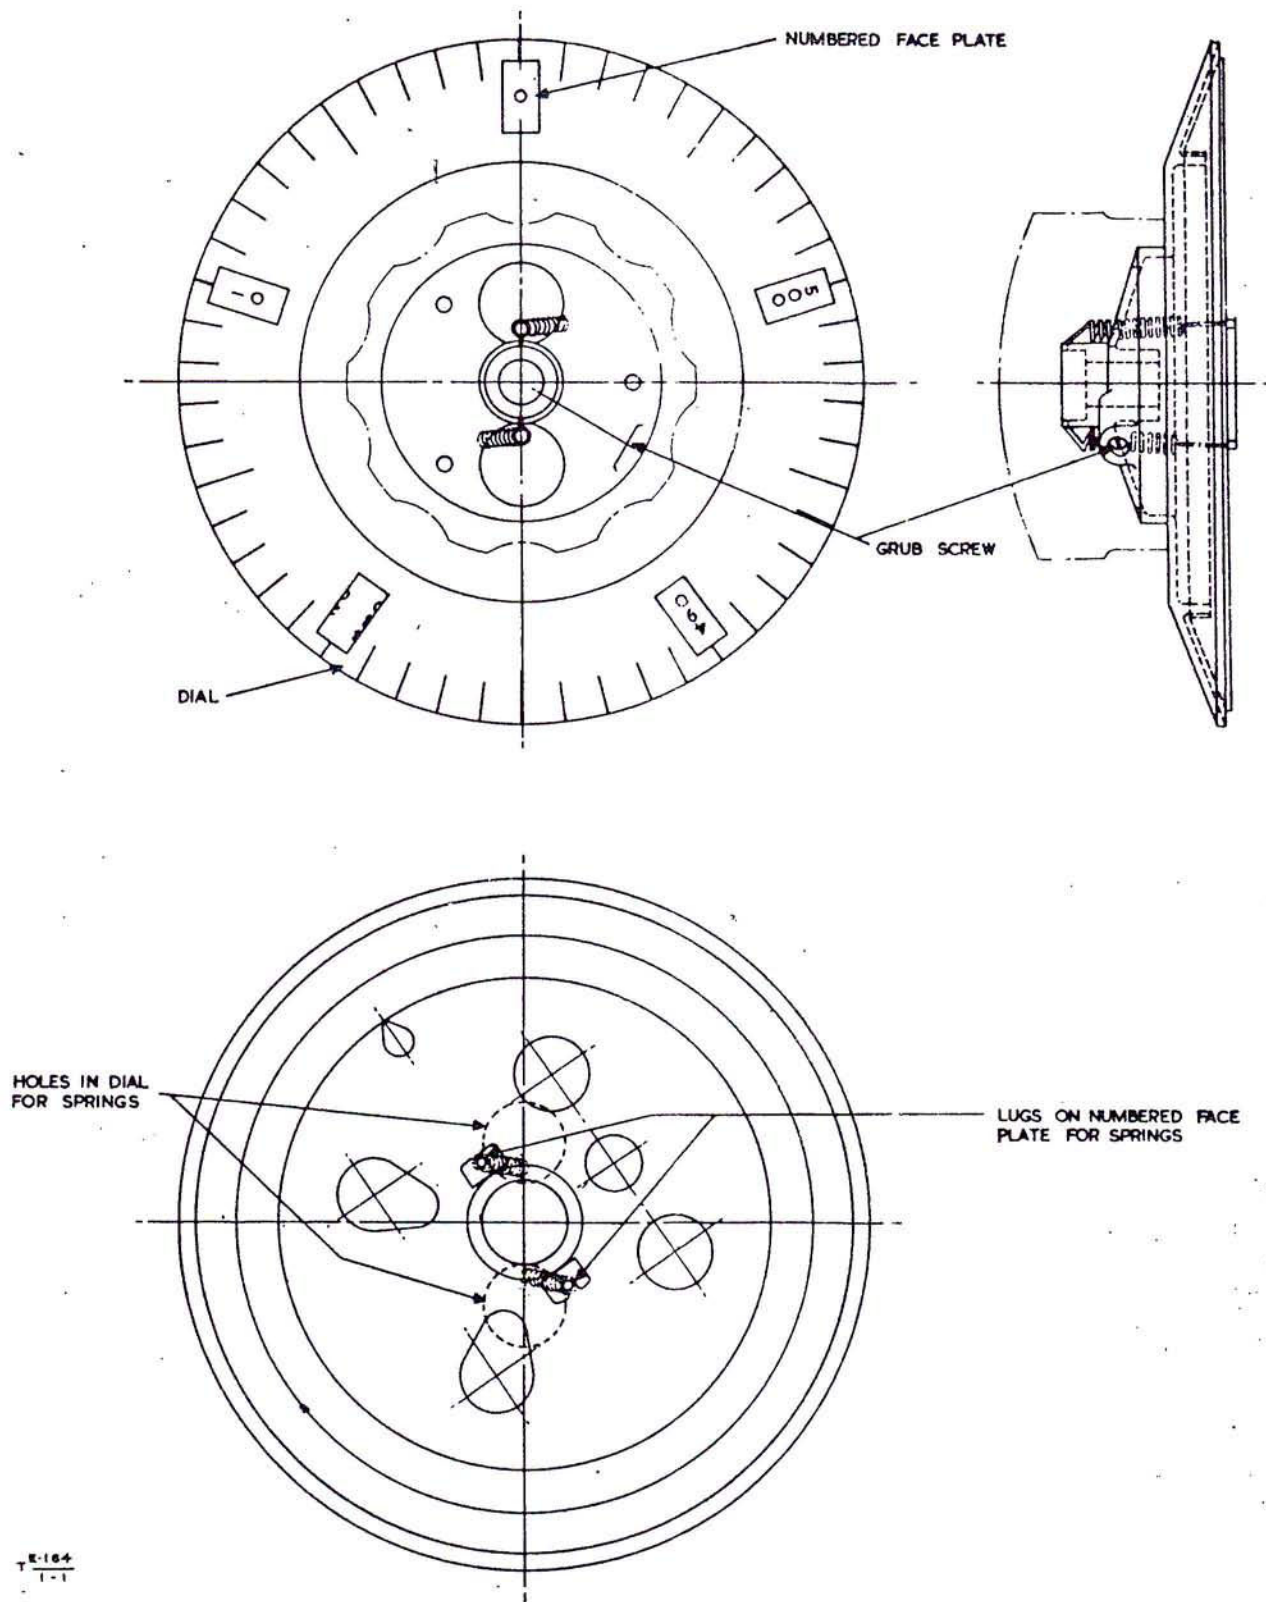

Fig 1 - Slow motion drive
(Figs 1 and 2) *
3. Remove the dial and ganged capacitor assembly as detailed in para 2. The correct relative positions of the two parts of the dial are shown in Fig 1. Care must be taken to ensure that, with the dial window displaying the 0 at 11 o'clock, the two retaining springs are in the position shown in Fig 1 and the dial grub screw is at 3 o'clock, when seen from the front of the dial. The two springs must not be above the opposite sides of the holes in the dial, which position will show a 0 in the dial window but with the grub screw lying almost opposite the 0. If assembled incorrectly the springs will be stretched against the sides of the holes instead of travelling clockwise across the space provided.